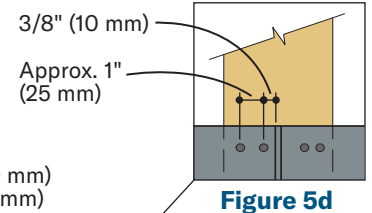

Figure 5d
- Blind nail two fasteners per furring strip (four nails at butt joints). (Figure 5d)